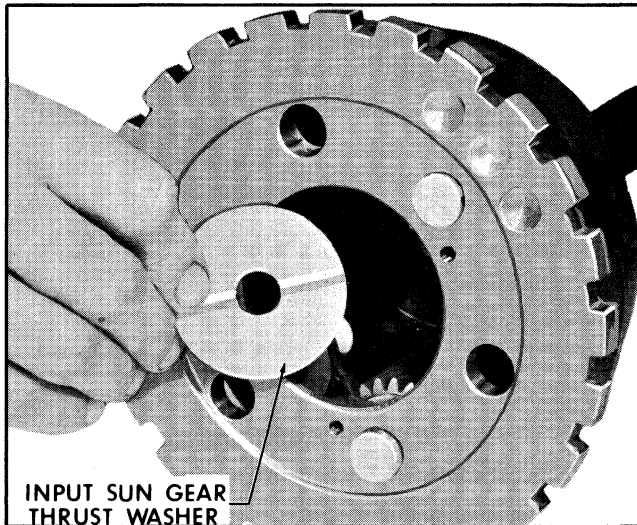

Fig. 7B-89 Removing Input Sun Gear Thrust Washer
7. Remove input sun gear thrust washer (Fig. 7B-89).